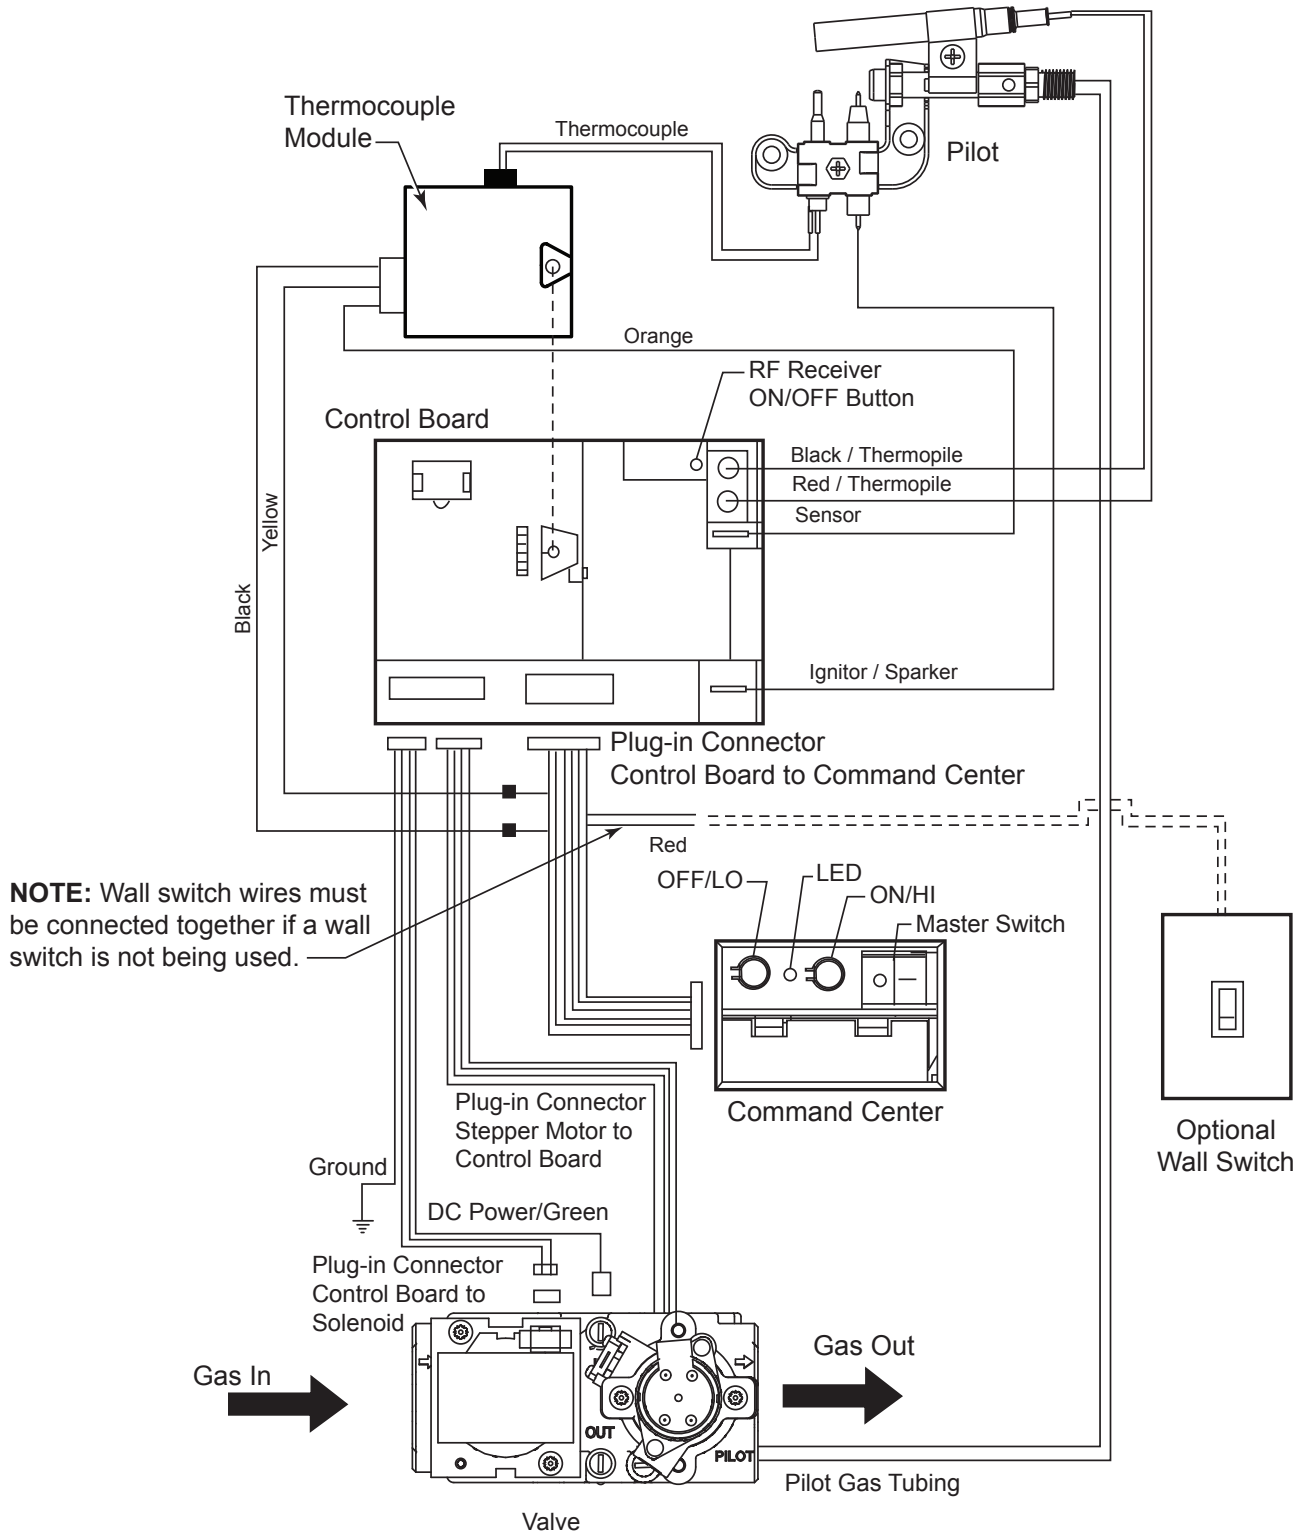

Figure 41 - Signature Command Wiring Diagram
The wall switch wire connection is located off the 2 ft. wire harness from the control box to the command center. *Figure 41.* The connection is labeled "Wall Switch". Unplug the male and female connectors and connect the two (2) low voltage wires not provided. Run wire to desired location on wall. Up to 50 ft. of 18 ga. wire may be used if necessary. Attach wires to wall switch. Mount the wall switch in to junction box and screw on cover.